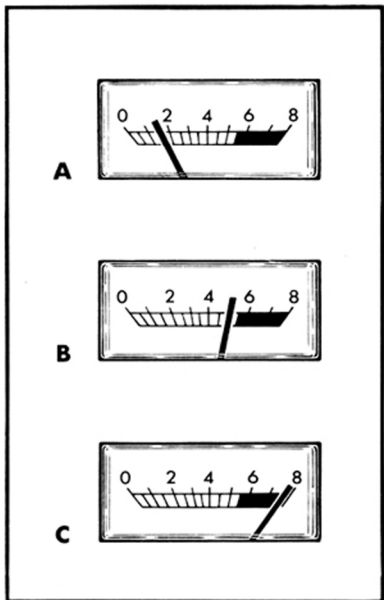

Fig. 8
- Switch on the apparatus connected or speak (sing) into the microphone; then turn recording-level control 9 far enough to the right to ensure that during the loudest passages, the pointer of the recording-level indicator 13 does not quite reach the red segment. (See Fig. 8; A = too low, B = correct, C = too high.)
- Depress and release the pause key 6. The tape is now set in motion and recording is taking place. During recording, check the recording level shown by the indicator 13 from time to time. Increase or decrease the level as necessary, but always do this gradually.
- To interrupt the recording for a short time press in the pause key 6.
- To stop recording press the stop key 7.